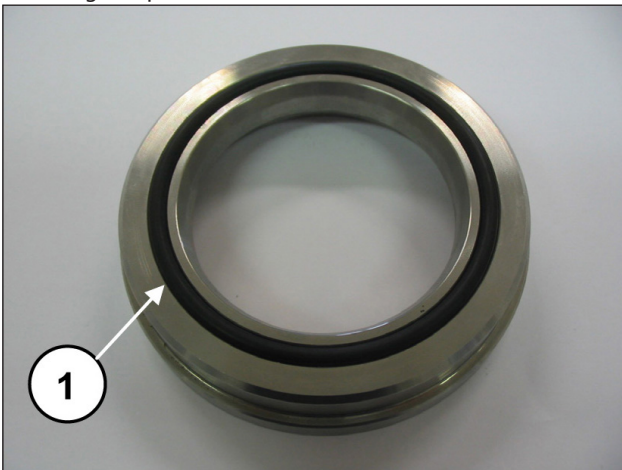

Fig. 168
Now assemble the O-ring (pos. ①, Fig. 168) on the packing head ring and position it in the seat on the head.